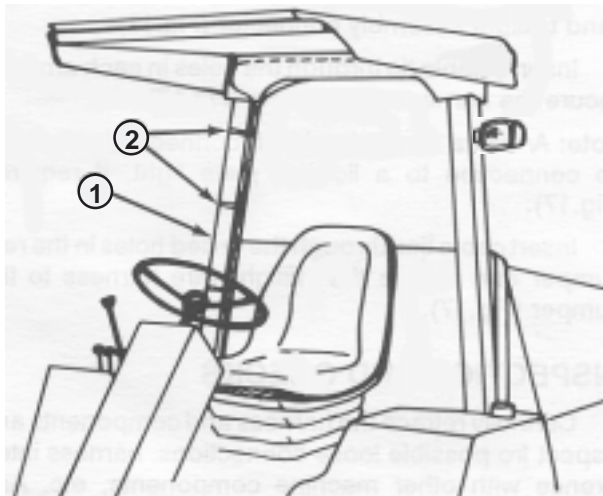

Figure 18
2. Route the harness wire up right side of ROPS frame to the canopy (Fig. 18).
3. Insert each harness butt connector through the grommet in the inner walls of the ROPS canopy. Slide a 2" section of shrink tubing over each wire and connect them to the flashing lights (Fig. 18). Seal the connections with the shrink tubing.